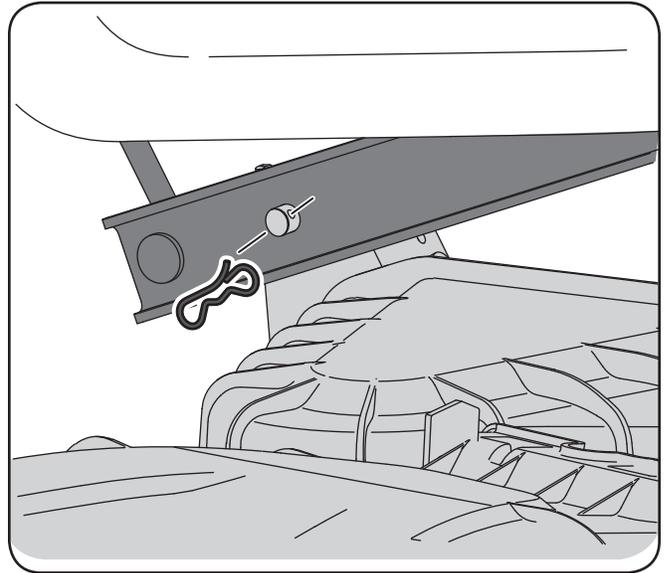

Figure 7-4
- Looking at the cutting deck from the left side of the tractor, locate the bow-tie pin on the rear left side of the deck. See Figure 7-4.
- Remove the pin and slide the deck pin out of the deck lift arm. See Figure 7-4.